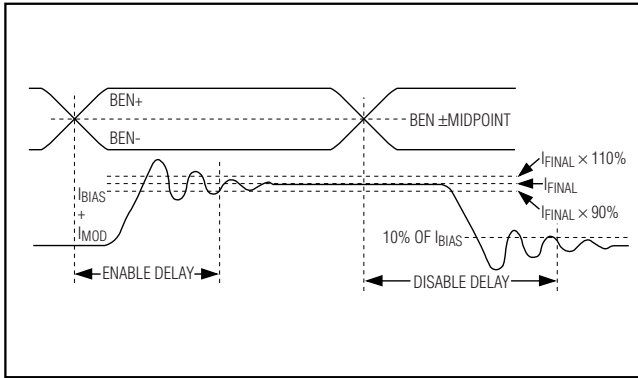

Figure 1. Enable and Disable Delay Times
Note 11: Enable delay is measured between (1) the time at which the rising edge of the differential burst enable input signal reaches the midpoint of the voltage swing, and (2) the time at which the combined output currents (bias and modulation) reach 90% of the final level set by R_{APCSET} , $R_{BIASMAX}$, and R_{MODSET} (after all transients such as overshoot, ringing, etc., have settled to within 10% of their final values). See Figure 1. Measurement done for $10mA \leq I_{MOD} \leq 85mA$ and $4mA \leq I_{BIAS} \leq 70mA$.
Note 12: Disable delay is measured between (1) the time at which the falling edge of the differential burst enable input signal reaches the midpoint of the voltage swing, and (2) the time at which the combined output currents (bias and modulation) fall below 10% of the bias on current (after transients have settled). See Figure 1. Measurement done for $10mA \leq I_{MOD} \leq 85mA$ and $4mA \leq I_{BIAS} \leq 70mA$.